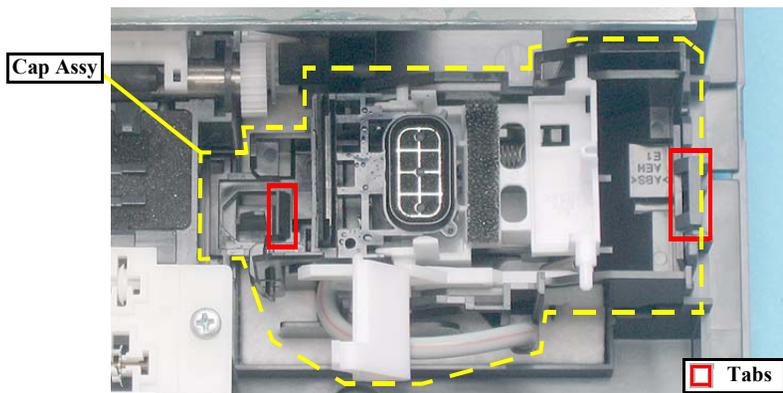

Figure 4-36. Removing Ink System (1)
1. Match the tabs (x2) of the Pump Assy with the positioning holes (x2) of the Frame Base. (Figure 4-36)